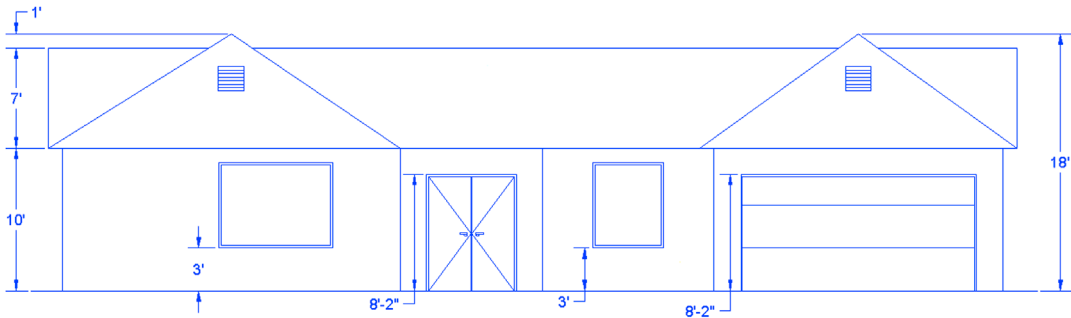

FIGURE 18.23 Elevation, Step 2.
- Step 2.** Raise the elevation and add the doors and windows according to the provided dimensions, as seen in Fig. 18.23. For simplicity, some details, such as gutters, are missing.